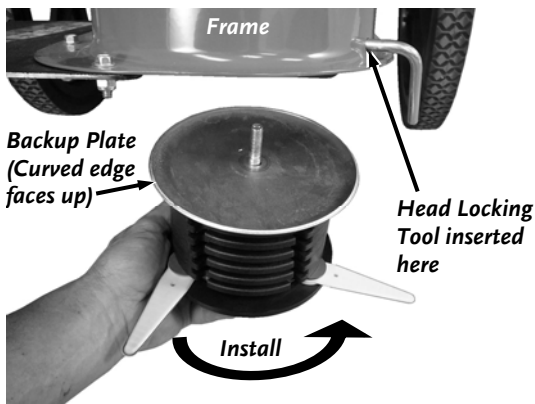

Figure 5
7. Position the DuraBlade™ Assembly onto the bottom Line Plate making sure the Mow-Ball and Line Plate are locked together. Place the Backup Plate on the top of the Line Plates with the curved edge facing up. Slide the long Bolt into the assembly and screw the assembly into the machine until snug (**Figure 5**).